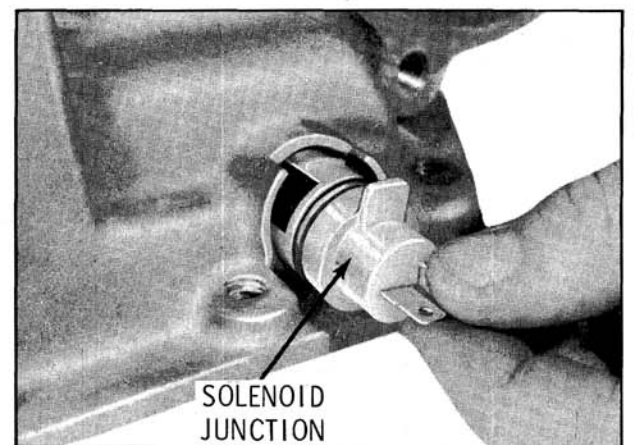

Fig. 6-536 Installing Solenoid Junction
9. Install solenoid junction into case. (Fig. 6-536)